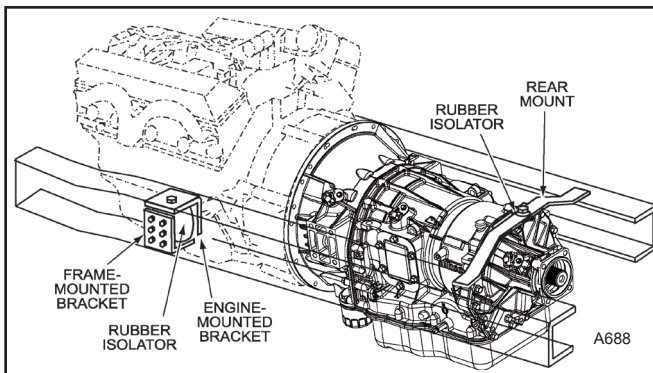

Figure 8: Automotive Mount Using Main Case / Rear-Cover Splitline Bolts for Attaching Rear Mount Bracket – 1000/2000 Product Family
This three-point mounting arrangement has two engine side mounts and a mount at the rear of the transmission. The powerpack's rear mount bracket is attached to the rear of the transmission through a rubber isolator mount. The rear mount bracket may be attached to the main case to rear cover split line bolts (Figure 8). Refer to AS64-430, Rear Support.
- The rear mount must provide sufficient flexibility to permit frame flexing and power pack roll without imparting rotational stress on the transmission. This is frequently accomplished with a leaf spring or spring-loaded cross-member reacting to the vehicle frame as shown in Figures 8 and 9.